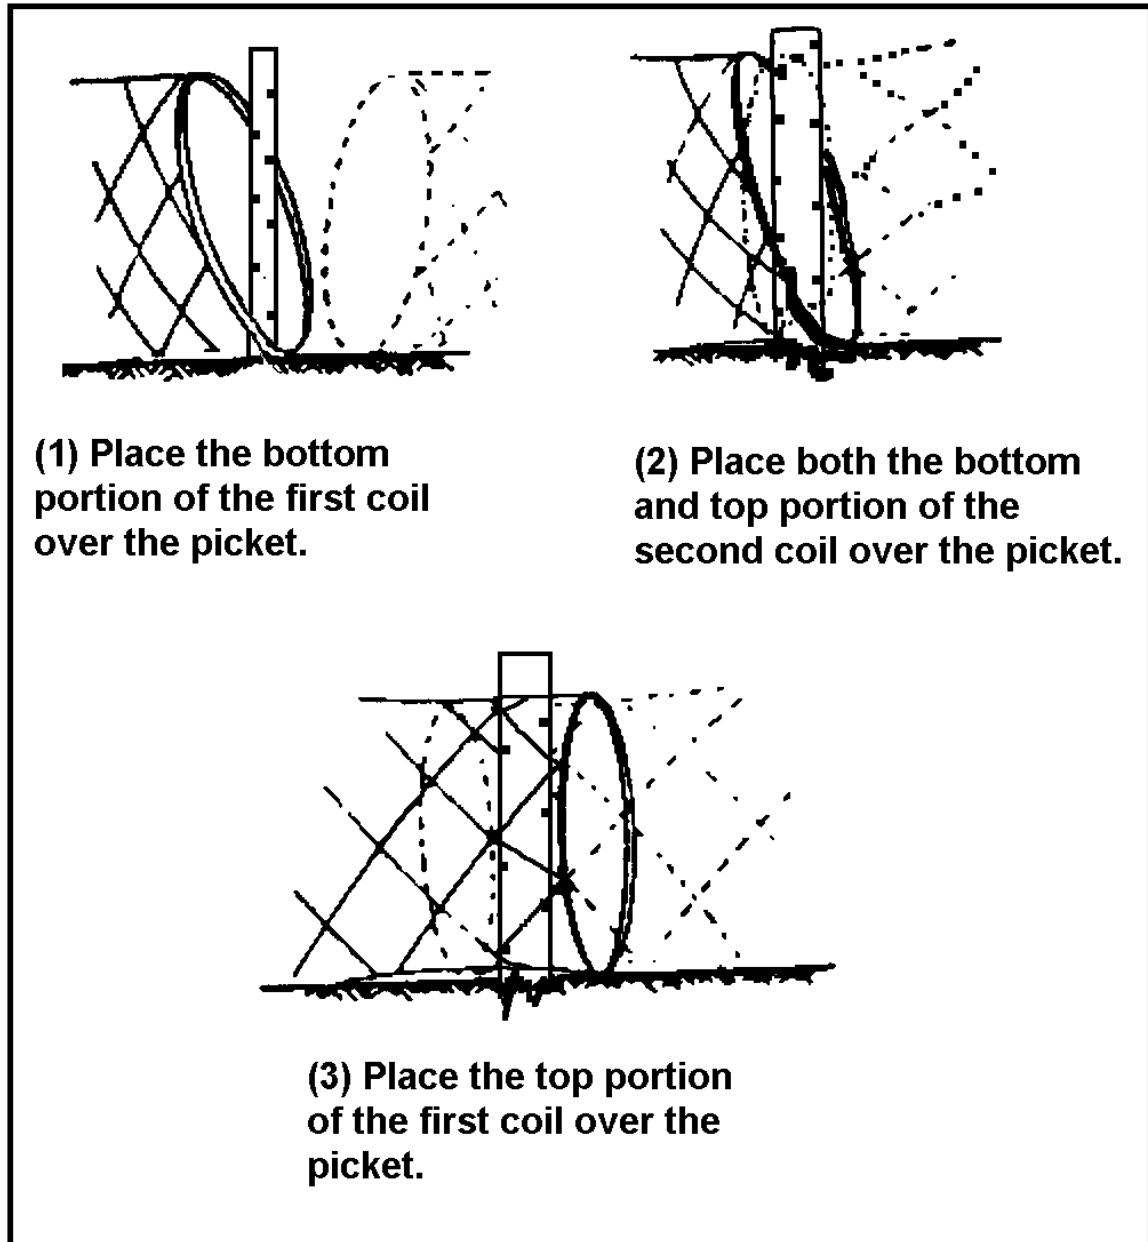

Figure 051-195-1020-4
- (2) Connect concertina when joining concertinas over a picket (Figure 051-195-1020-4).